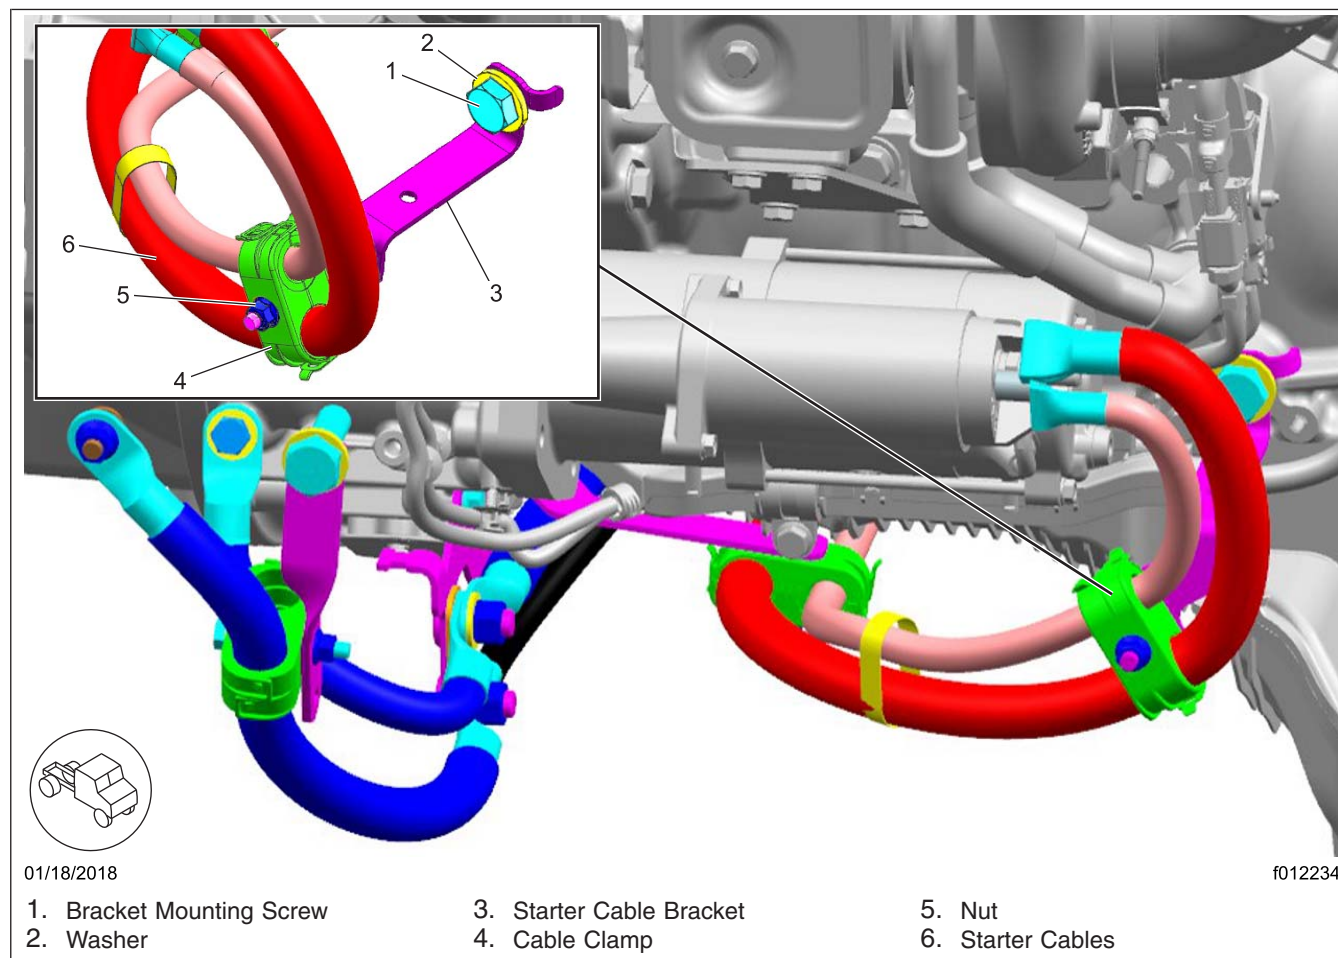

Fig. 7, Starter Cable Bracket Installation
1. With the batteries disconnected, remove the cable clamp from the forwardmost starter-cable bracket. See **Fig. 7**.